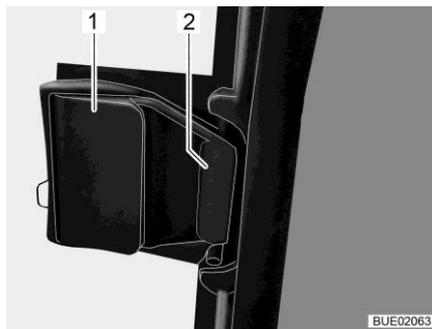

Fig. 117 Sliding window, locked
- Pull the release element (Fig. 117,1). The latch (Fig. 117,2) opens.